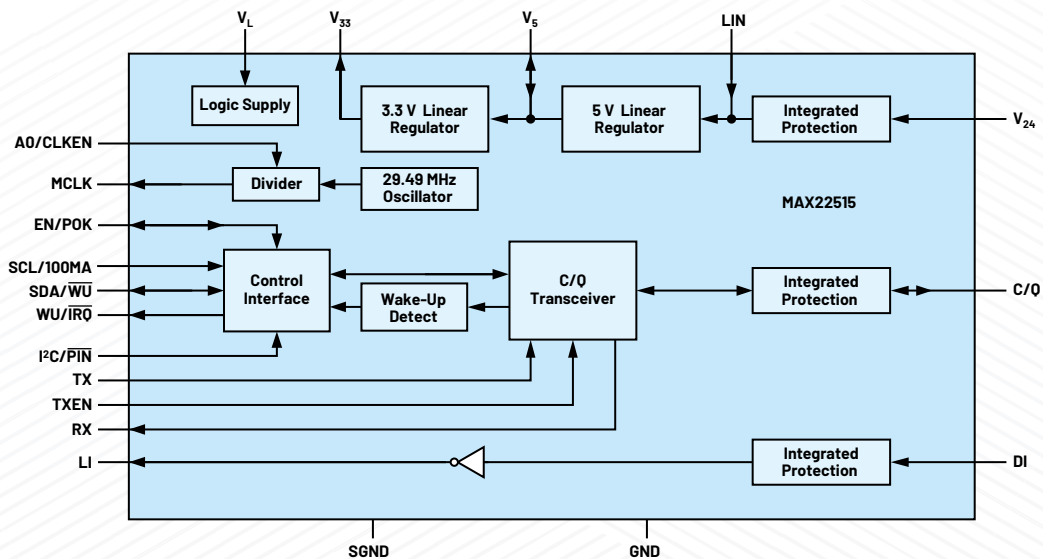

Figure 55. A MAX22515 block diagram.
The MAX22515 low power industrial transceiver (Figure 55) operates as either an IO-Link device or a non-IO-Link sensor transceiver in industrial applications. The MAX22515 features a selectable control interface (pin-mode or I²C), two integrated linear regulators, and integrated surge protection for robust communication. The transceiver includes one C/Q input-output channel and one digital input (DI) channel.